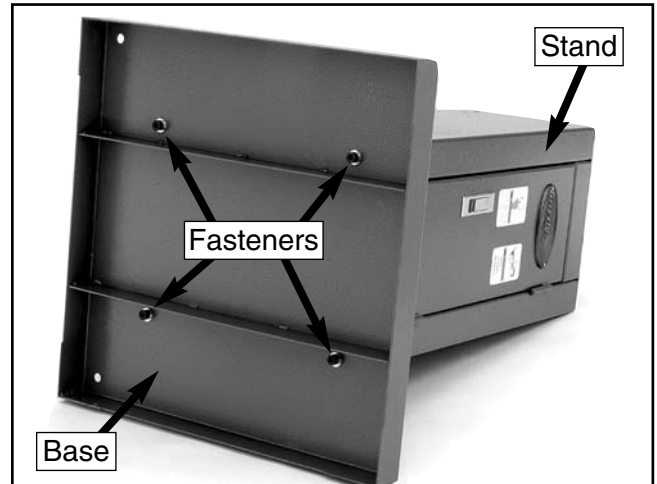

Figure 5. Stand attached to base.
Attach the stand to the base with (4) M8-1.25 x 20 cap screws, (4) M8 flat washers, (4) M8 lock washers and (4) M8-1.25 hex flange nuts (**Figure 5**). Note—*The lock washers should be installed between the flat washers and the head of the cap screws.*